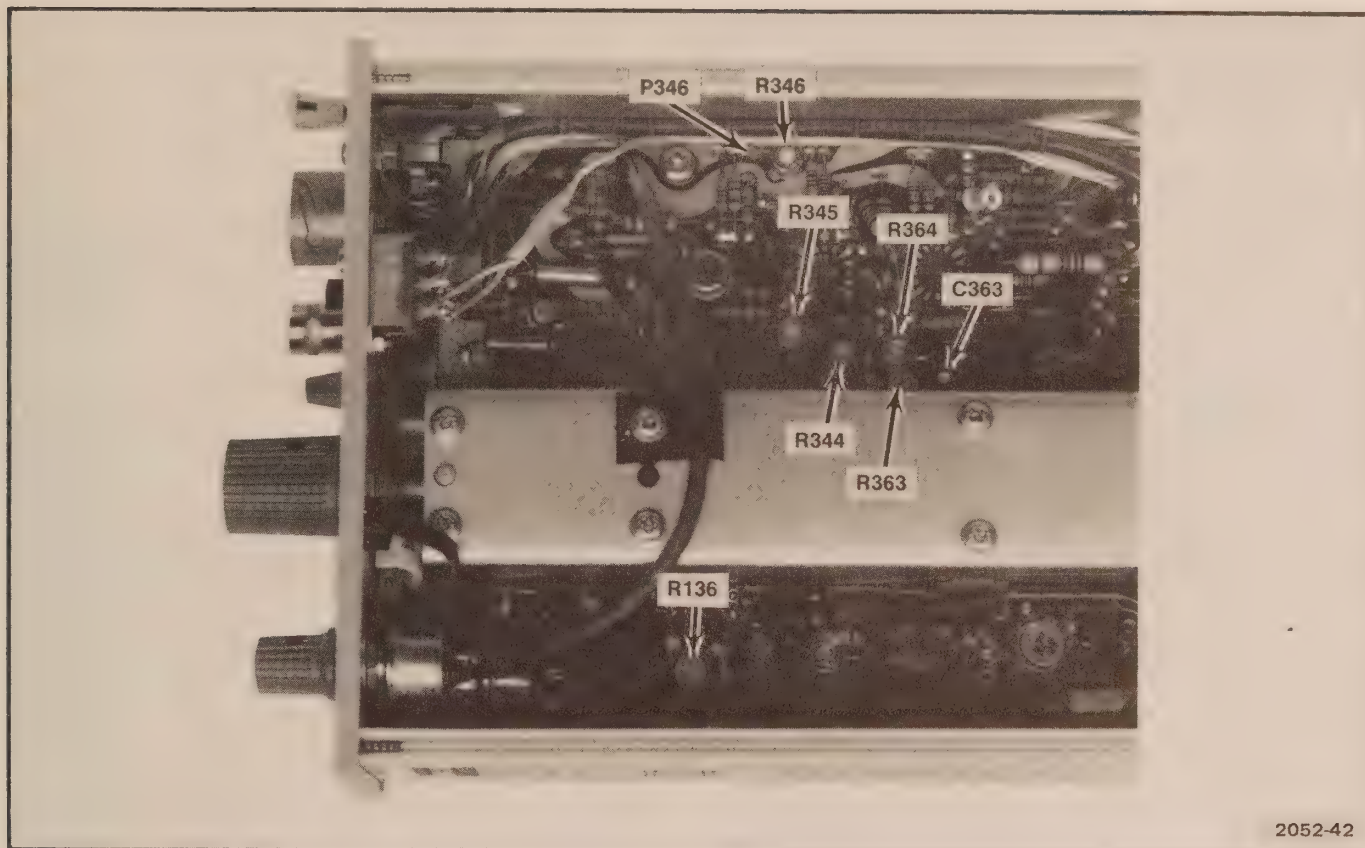

Fig. 3-3. Gain and compensation adjustment locations.
g. Adjust—R344 for a four-division display (see Fig. 3-3).
i. Connect a jumper wire between P346 (see Fig. 3-3) and ground.
- l. Adjust—R136, Degauss Level (see Fig. 3-3), for a 4.4 divisions  $\pm 0.4$  division display.